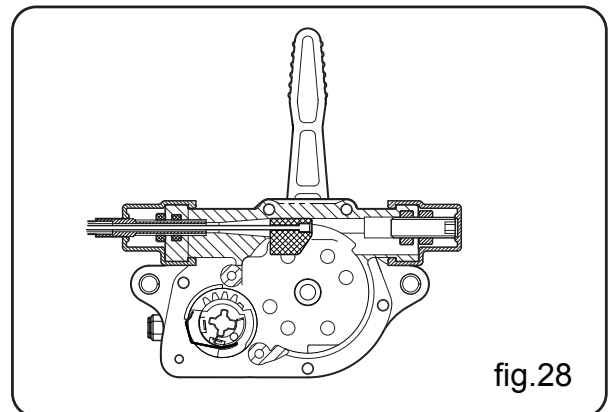

fig.28
(1) Disassembly
- In case of removing the throttle wire (5), move to idling position of the lever (2) ready. (fig.28)
- Remove the end cap (11) and unscrew a bolt (10) and 2 pcs nuts (8).